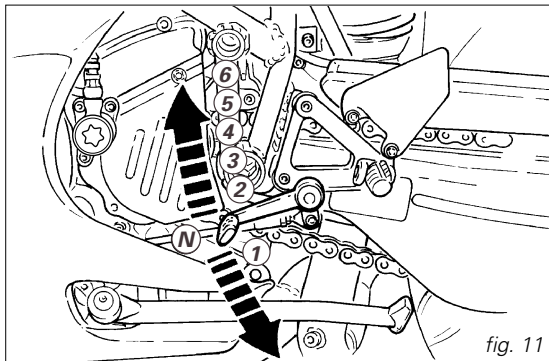

fig. 11
**Gear change pedal** (fig. 11)